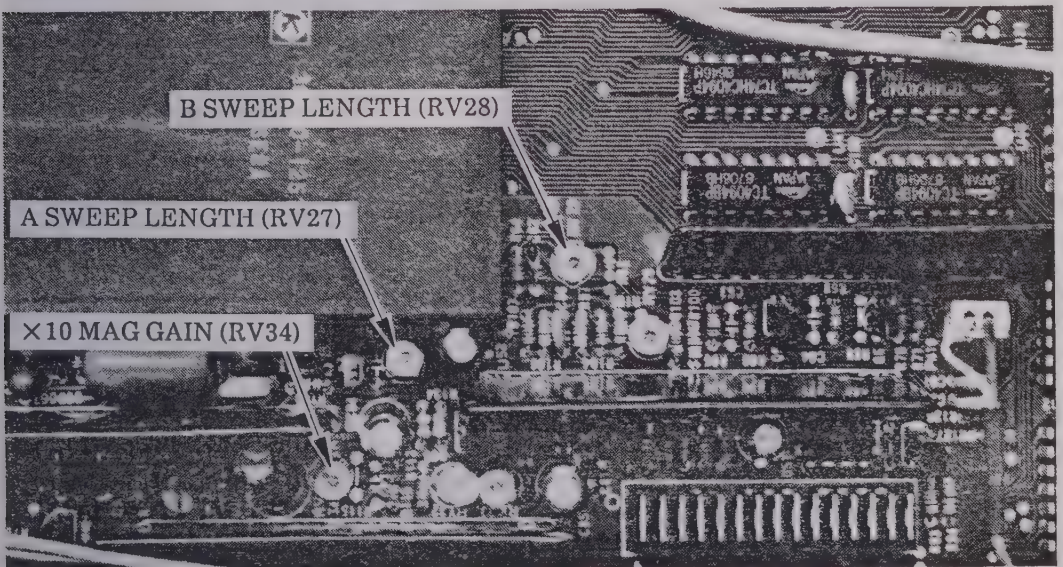

Fig. 4-30 Adjustment positions of A and B SWEEP LENGTH (RV27 and RV28) and  $\times 10 \text{ MAG GAIN}$  (RV34)
- (1) Perform initial setting in accordance with Table 4-3.
- (2) Apply a 1ms time marker signal output, to the CH1 input (terminated in 50 ohms), and adjust the VOLT/DIV switch so that the amplitude of the waveform on the CRT screen is about 2 DIV.
- (3) Count the time markers and confirm that the sweep length is within  $11.5 \pm 0.5 \text{ DIV}$ . If it is not, adjust the A SWEEP LENGTH (RV27) on board A4 shown in Fig. 4-30.
- (4) Set "HORIZ MODE" to "ALT", and set "BTRG" to ON.
- (5) Set the B sweep to 1ms/DIV, and the A sweep to 2ms/DIV.
- (6) Set "DLY" to ON, and turn the "READ OUT" knob to the left to set the DELAY TIME POSITION to 0.
- (7) Set "HORIZ MODE" to "B".
- (8) Count the timer markers and confirm that the sweep length is within  $11.5 \pm 0.5 \text{ DIV}$ . If it is not, adjust the B SEEP LENGTH (RV28) on board A4 shown in Fig. 4-30.
- (2) Connect a 0.1ms time marker signal, to the CH1 input (terminated in 50 ohms), and adjust the input factor so that the amplitude of the waveform on the CRT screen is about 2 DIV.
- (3) Set " $\times 10 \text{ MAG}$ " to ON.
- (4) Confirm that the sweep accuracy is within  $\pm 4\%$ . If it is not, adjust  $\times 10 \text{ MAG GAIN}$  (RV34) on board A4 shown in Fig. 4-30.